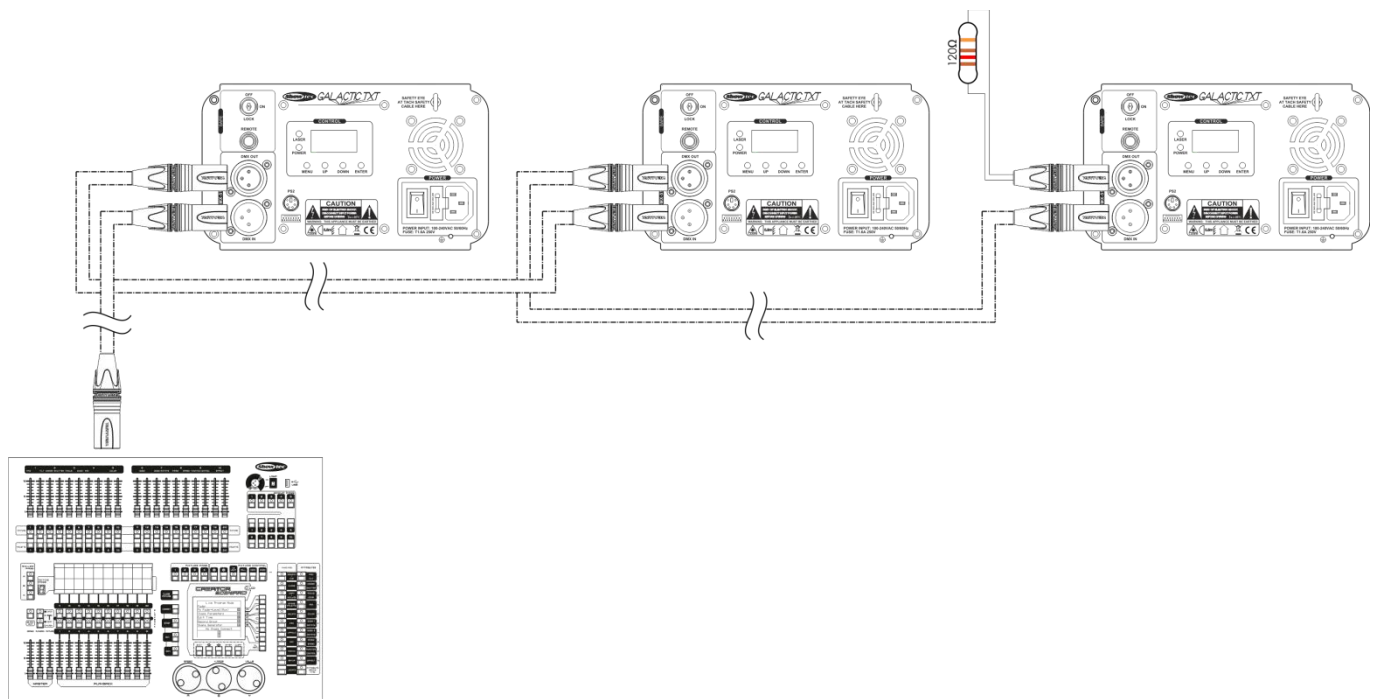

Fig. 04
- 05) Link the units as shown in Fig. 04, Connect a DMX signal cable from the first unit's DMX "out" socket to the second unit's "in" socket. Repeat this process to link the second, third, and fourth units.